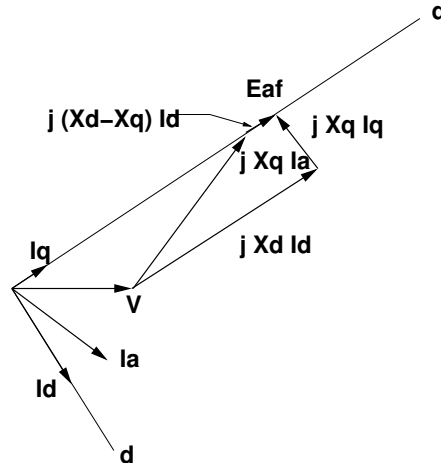

Figure 1: Salient Pole Phasor Diagram
2. In operating conditions, it is appropriate to, first, find the components of operating current This is done with the aid of the phasor diagram shown in Figure 1. The details are shown on the appended script, with the numbers generated repeated here. (I have edited out a number of blank lines)